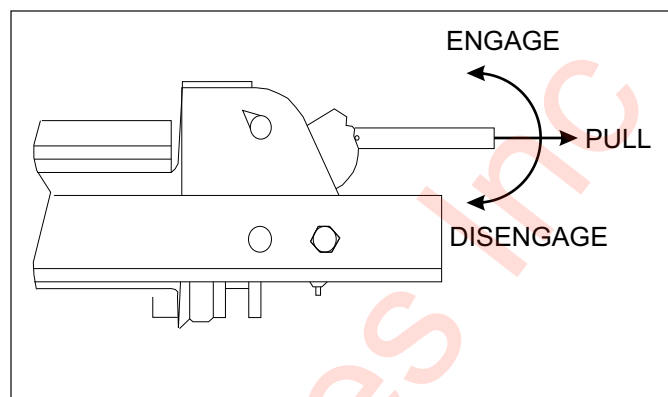

Figure 3-9: 12,000 LB. Winch Manual Clutch
1. The Winch Clutch handle (See Figure 3-9 and 3-10) is located on the right or curb-side end of the 12K winch assembly and the left or streetside of the 20K winch assembly. The function of the winch clutch handle is to engage or disengage the winch, allowing it to respond to the Winch Hydraulic knob.